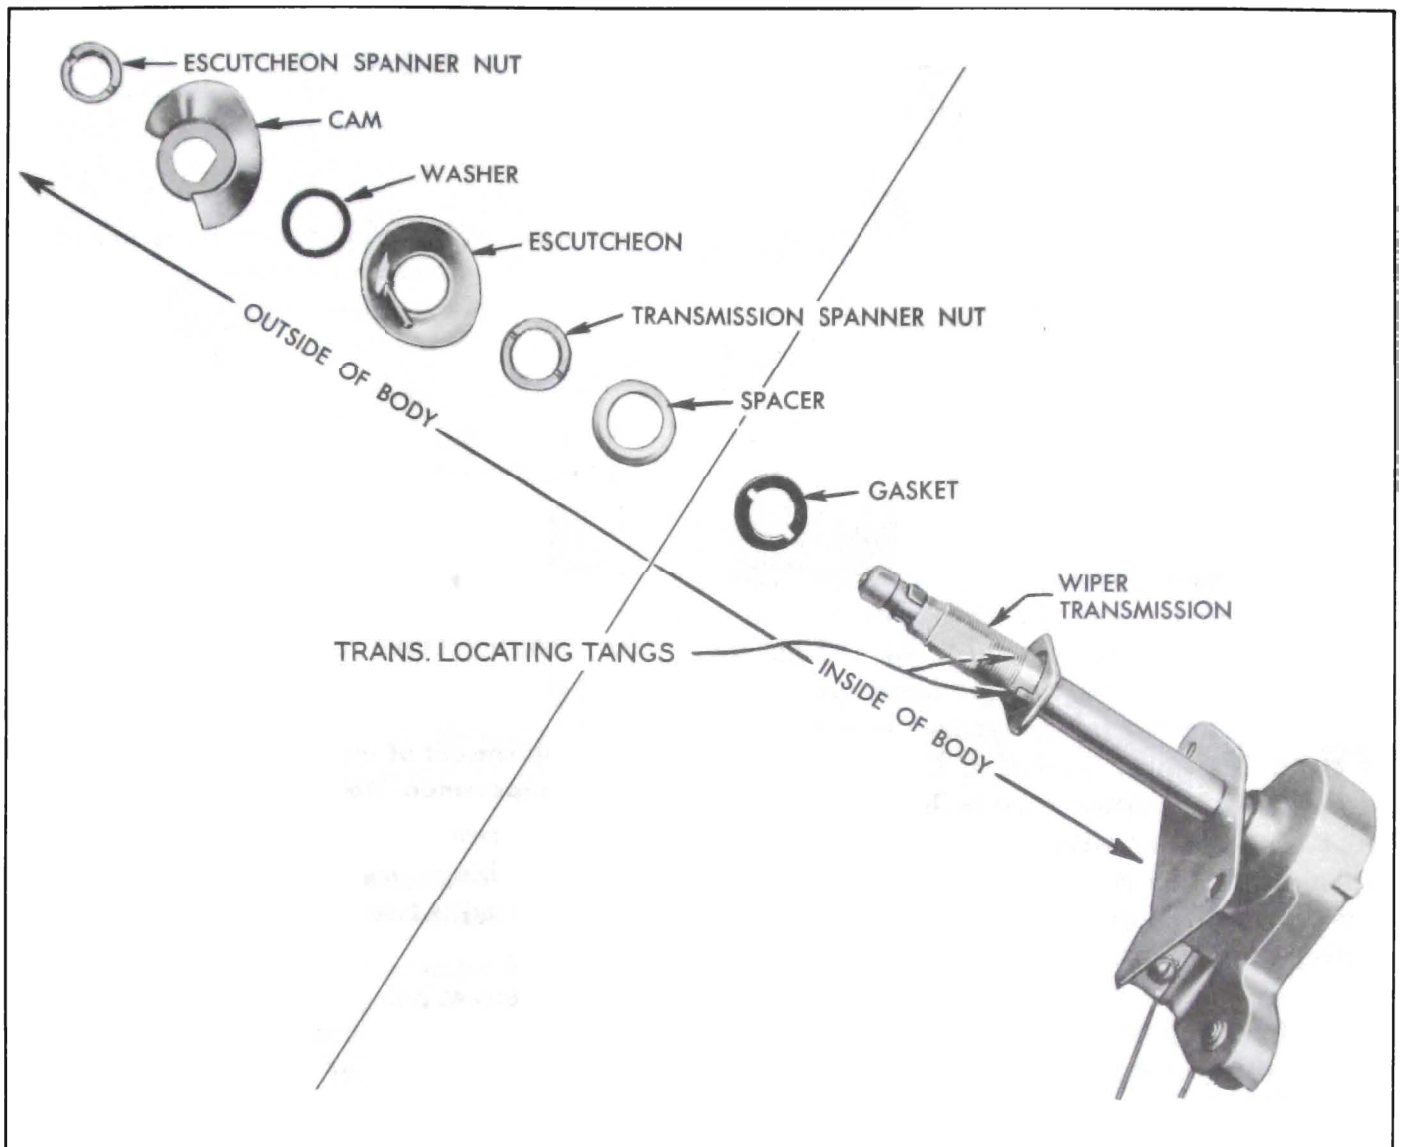

Figure 13-182—Windshield Wiper Transmission Component Parts
1. If necessary replace gasket and arrange transmission component parts for installation. See figure 13-182.
3. Outside of body, position transmission spacer and spanner nut. Check alignment of wiper transmission and tighten spanner nut with wrench 6592. Then, inside of body, tighten wiper transmission attaching screws. See figure 13-182.